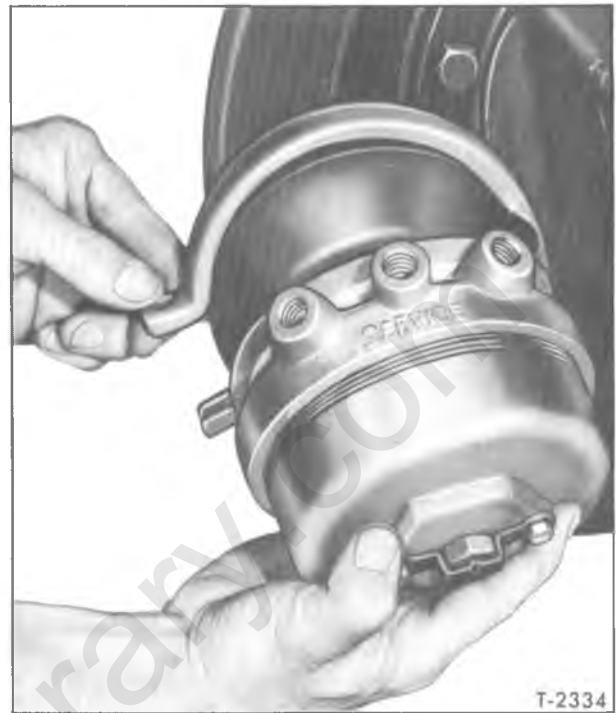

Figure 43—Removing "Fail-Safe" Assembly
5. Remove entire cap and spring assembly, pressure housing, and rubber diaphragm (see fig. 43). Diaphragm plate rod and boot will remain in the non-pressure housing.